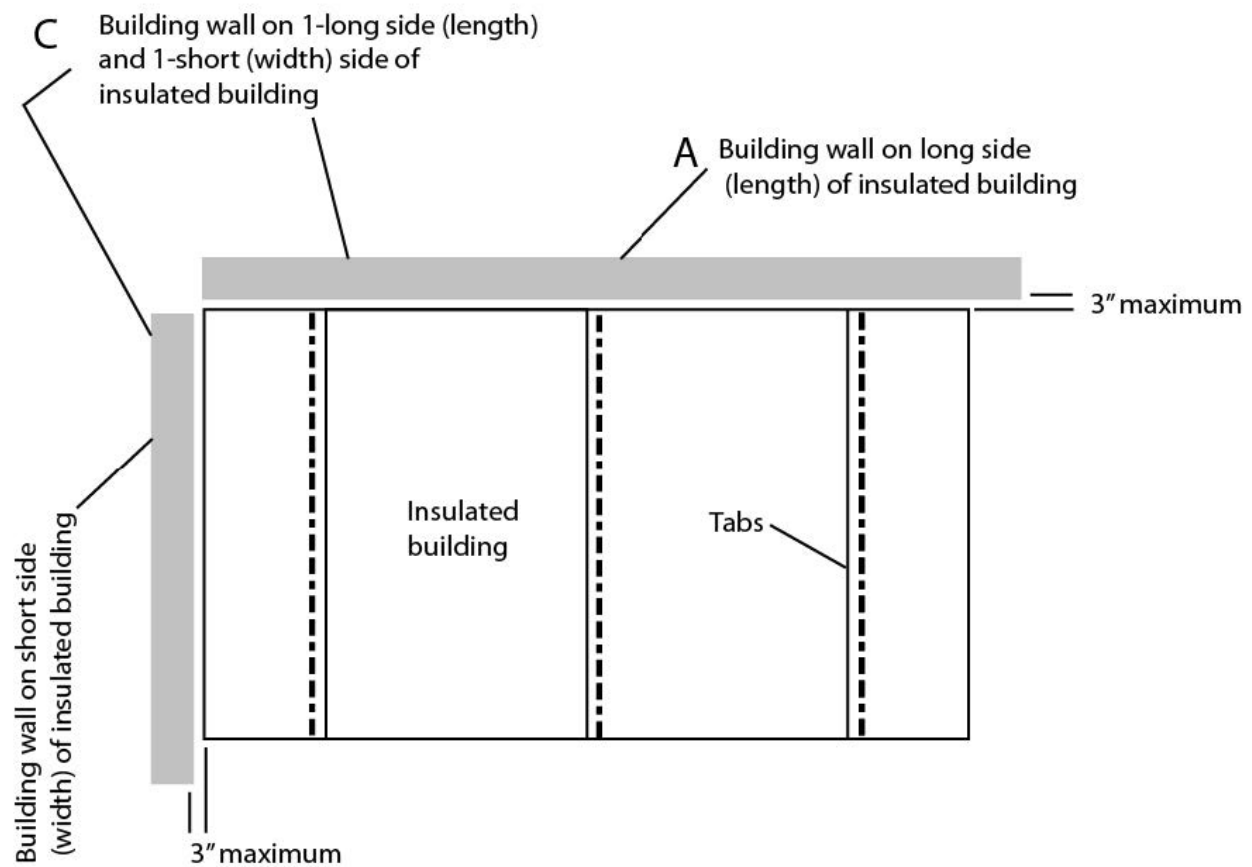

Figure 8
**NOTE:** Spend a few minutes reviewing this material before you begin installing the membrane roof. Using Figure 8, find the condition that applies to your installation. Condition A applies when a long side of the Bally structure abuts an existing building; Condition B when a short side abuts, and Condition C when both a short and a long side abut.